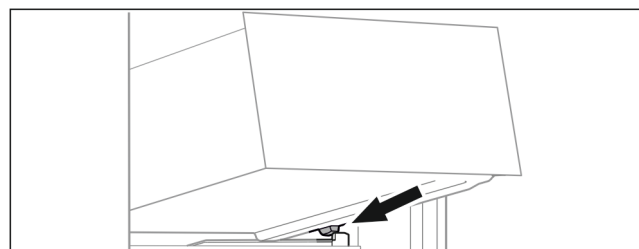

Fig. 82
- ▶ Place drawer at an angle behind the stoppers on the molded rib. (see Fig. 82)